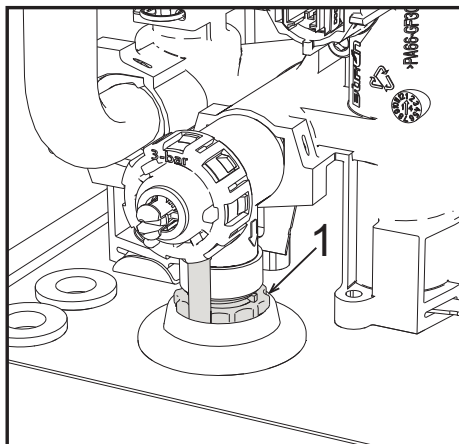

fig. 9- Safety valve with drain faucet
To drain the system, turn the ring (ref. 1 - fig. 9) counter-clockwise to open the faucet. Do not use any tools; use hands only.